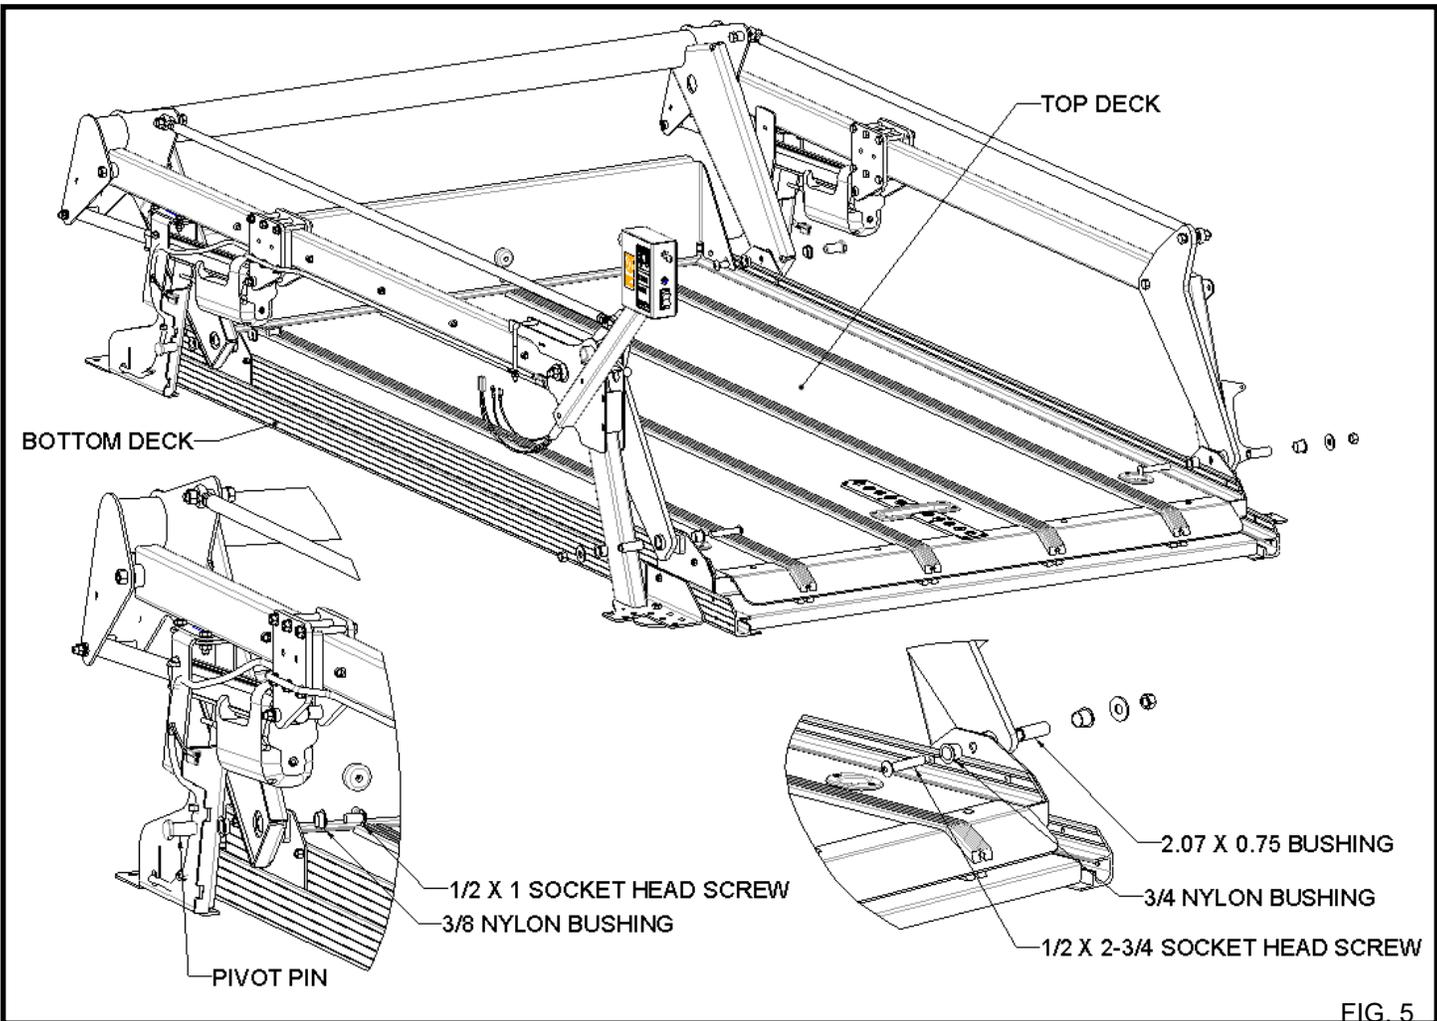

FIG. 5
6.16 Place blocks on top of the bottom deck for the top deck to rest on during installation. Place the top deck in the vehicle on top of the blocks. **(FIG.5)** Insert the nylon and steel bushings into the sleeves at the ends of the torsion bar arms, and the rear swing arms.